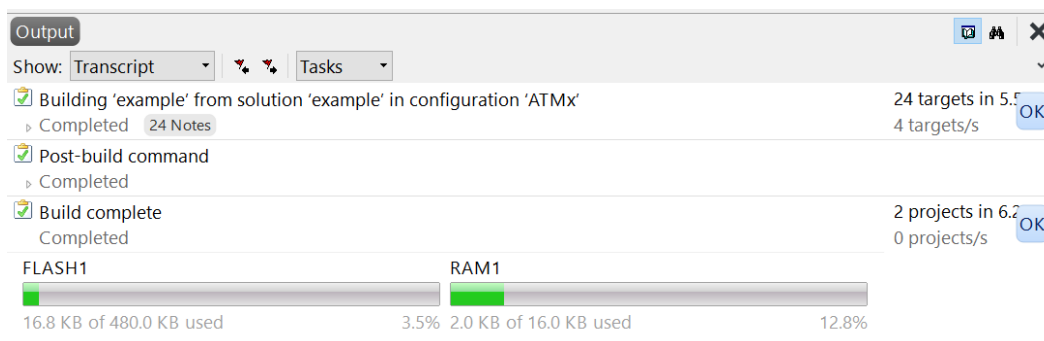

Figure 2 - Build Output with No Errors
- Figure 2 - Build Output with No Errors
Make sure that there are no build errors. The output should look similar to Figure 2: